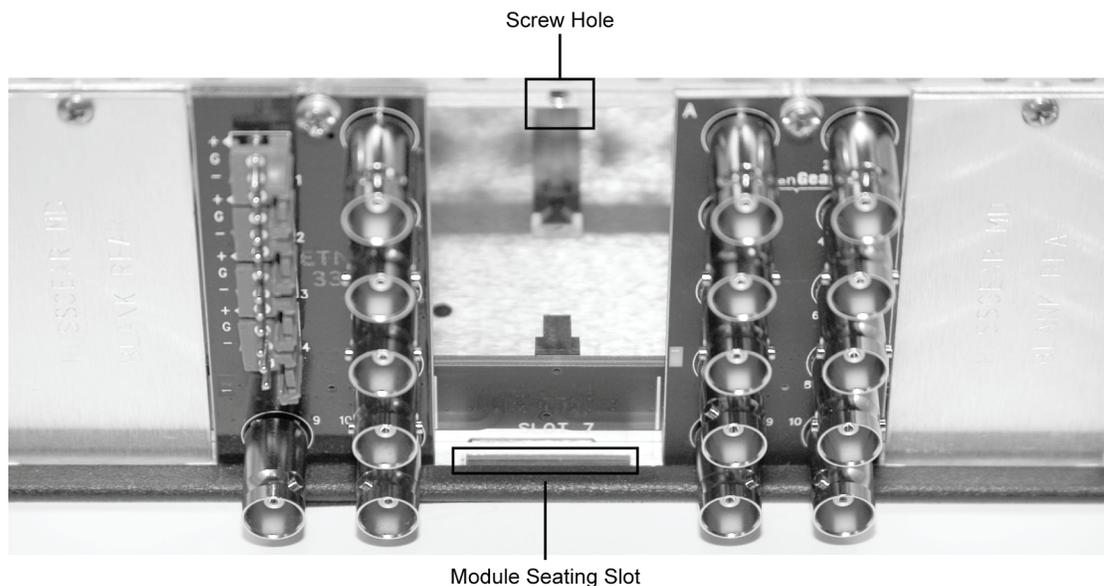

Figure 3. Rear Module Installation in a DFR-8310 series frames (DMX-8254 not shown)
4. As shown in **Figure 3**, seat the bottom of the rear module in the seating slot at the base of the frame's back plane.